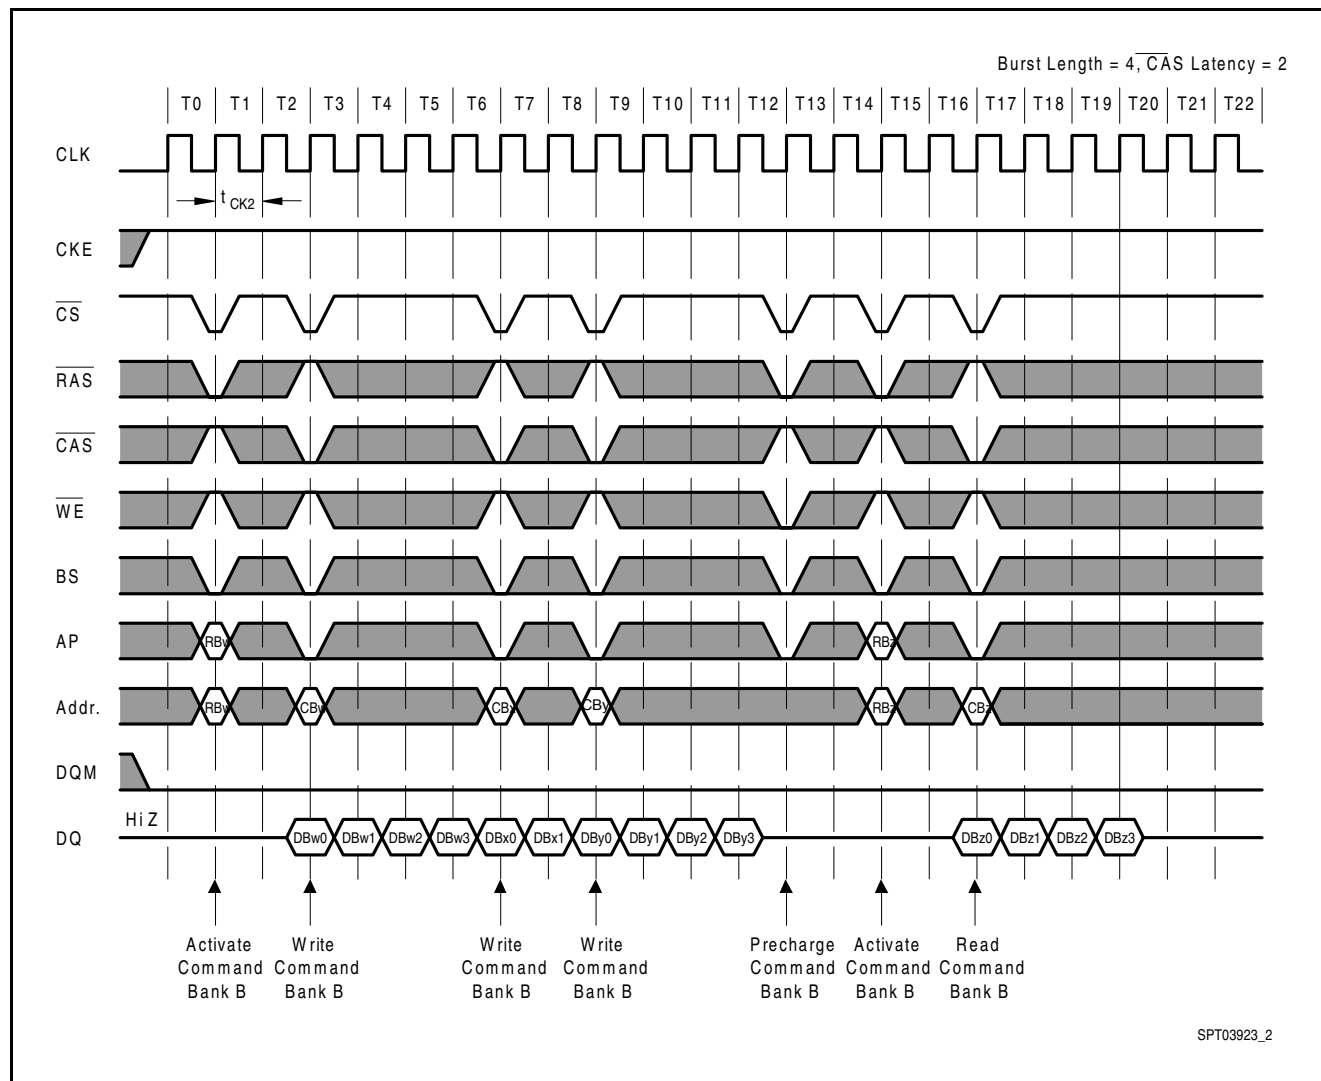

Figure 29 CAS Latency = 2
- **Figure 29** CAS Latency = 2